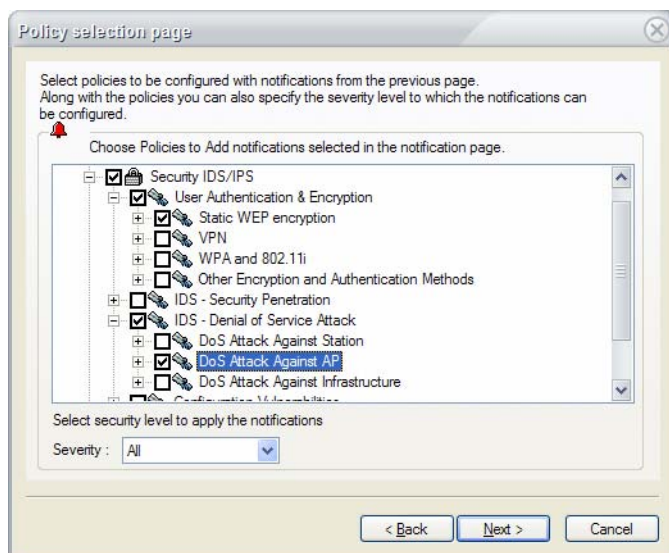
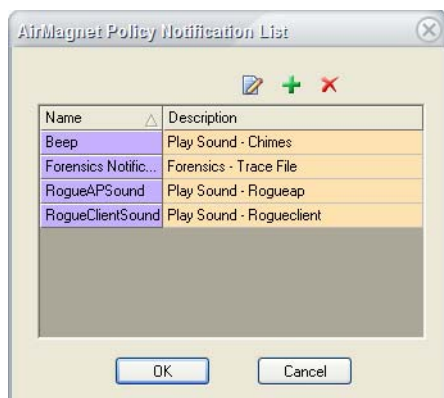

Figure 12-19: Assigning notifications to alarms
Figure 12-20: AirMagnet Policy Notification List screen
- 2) Check the **Add notifications to policies** radio button (if not already clicked), select the notification(s) to which you want to link to the policy profile, and click **Next**. The Policy Selection Page appears. See Figure 12-19.
- 1) From the Notification Selection Page (Figure 12-19), click **Add/Edit Notification List**. The AirMagnet Policy Notification List screen appears. See Figure 12-20.
- 1) From the AirMagnet Policy Notification List (Figure 12-20), highlight the notification and click **E** (Edit Notification), or simply double-click the notification. The configuration dialog box for the notification appears.
- 1) From the AirMagnet Policy Notification List screen (Figure 12-20), highlight the notification, and click **D** (Delete Notification).